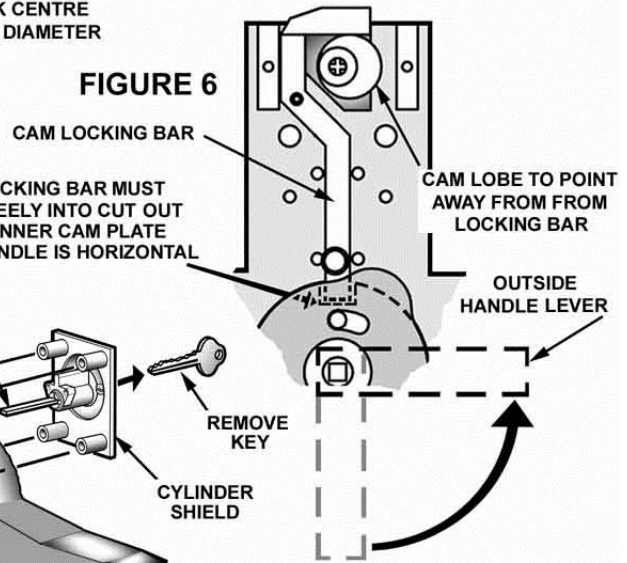
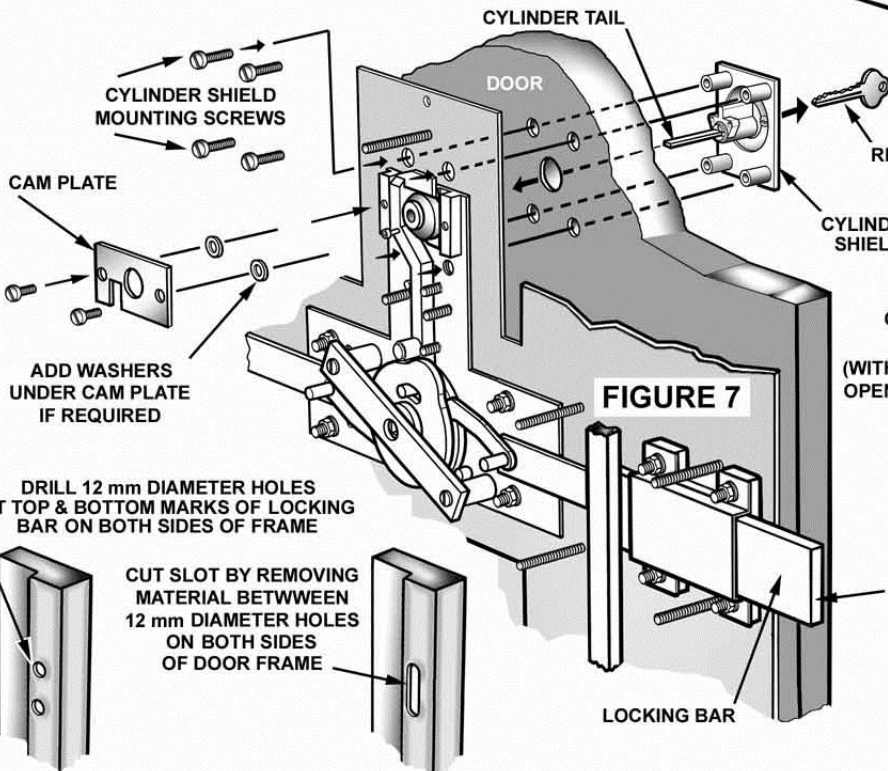

FIGURE 6
FIGURE 7
8. **This step only applies to Model 420 Locks. Fit Cylinder Shield Assembly to door using screws provided. Fix through lock body. (Fig. 7)**
9. **This step only applies to Model 420 Locks. With the Locking Bars extended (i.e. locked position) & the key removed from the Cylinder, ensure that the Cam (that accepts the Cylinder Tail) is oriented such that the Cam Lobe points away from the back of the Cam Locking Bar. (Fig. 6 & 7). The door will need to be in the open position to do this. This step is critical for the Lock to function as intended.**
14. **At this point check the operation of the Cam Locking Bar. Ensure when the outside Lever Handle is moved upwards to the horizontal position, the Cam Locking Bar falls freely into the cut out in the Inner Cam Plate. (Fig. 6) If this does not happen try adding a small washer under the Cam Plate. (Fig. 7)**